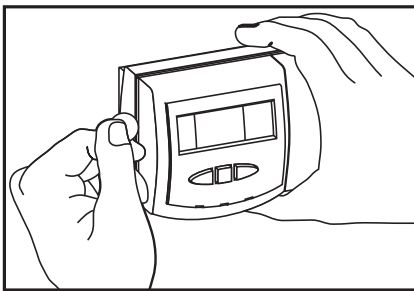

Figure 3
4. Remove the cover using a coin or screwdriver (Figure 3). Set aside.